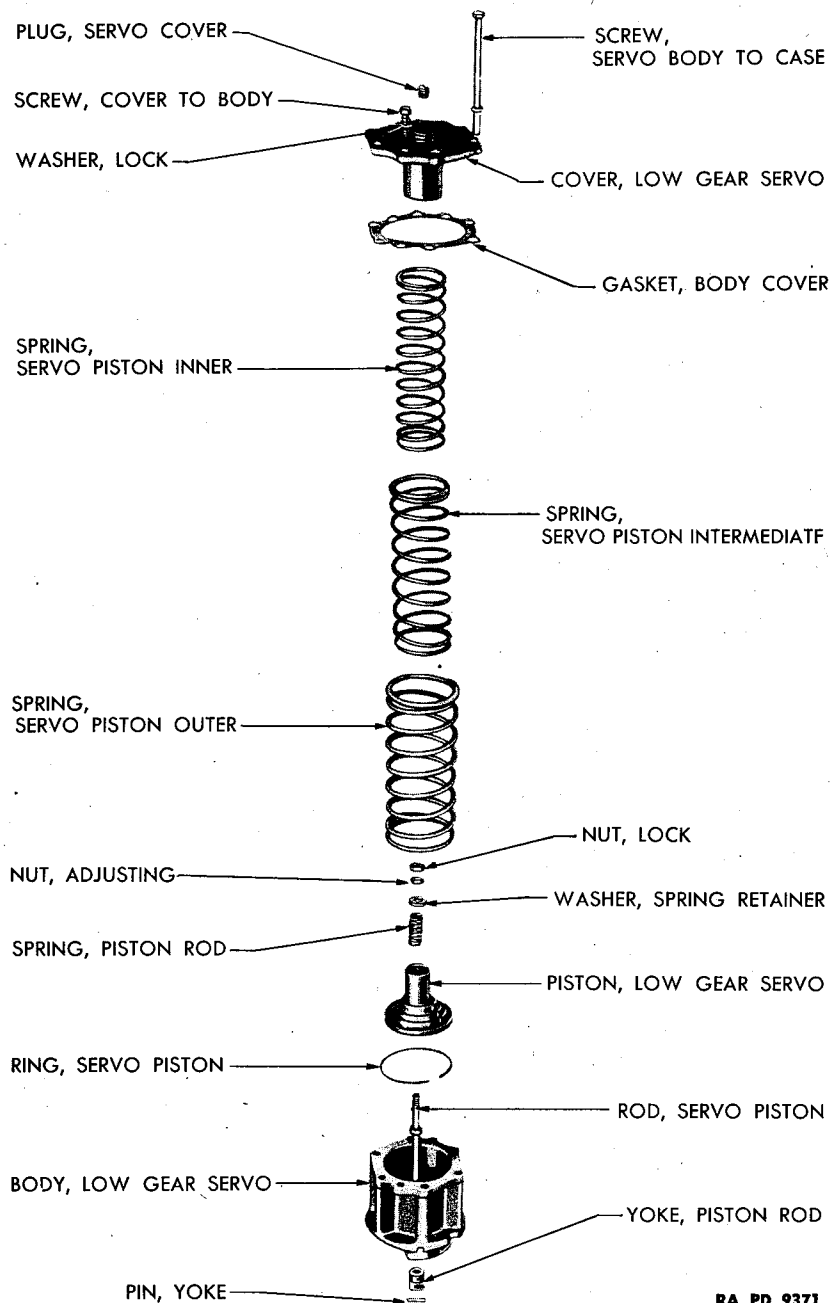

Figure 123 — Low Gear Servo — Disassembled
Inspect valve bores in valve body (fig. 123) for cuts or scores which might cause valves to stick or cause oil leakage. Inspect machined
Remove accumulator piston oil seal ring (fig. 123) from accumulator piston and insert in bore of valve body. Check ring gap, using a feeler gage. This gap should be 0.0015 inch to 0.0095 inch. Reinstall accumulator piston oil seal ring on accumulator piston and check clearance between ring and ring grooves in piston. Clearance should be 0.001 inch to 0.003 inch.
(4) ACCUMULATOR PISTON SPRINGS (fig. 123).
Check free length of outer accumulator piston spring (fig. 123). Free length should be $5\frac{11}{16}$ inches. Compress outer accumulator piston spring to $3\frac{3}{4}$ inches and measure pressure while compressed. Pressure should be 15 pounds to 16.5 pounds. Check free length of inner accumulator piston spring. Free length should be $5\frac{23}{64}$ inches. Compress inner accumulator piston spring to $3\frac{3}{4}$ inches and measure pressure while compressed. Pressure should be 6.45 pounds to 7.45 pounds.
(5) SHIFTER VALVE SPRINGS (fig. 123).
Check free length of inner shifter valve spring (fig. 123). Free length should be $1\frac{1}{2}$ inches. Compress inner shifter valve spring to $\frac{13}{16}$ inch and measure pressure while compressed. Pressure should be 4.9 pounds to 5.3 pounds. Check free length of outer shifter valve spring. Free length should be $1\frac{7}{16}$ inches. Compress outer shifter valve spring to $\frac{5}{8}$ inch and measure pressure while compressed. Pressure should be 4.1 pounds to 4.75 pounds.
(6) THROTTLE VALVE SPRING (fig. 123).
(7) LOW GEAR SERVO SPRINGS (fig. 123).
Install low gear servo piston ring in bore of servo body (fig. 123). Check ring gap, using a feeler gage. This gap should be 0.0015 inch to 0.0095 inch. Install low gear servo piston (without ring) in bore of servo body and check clearance of piston, using a feeler gage. The clearance should not exceed 0.008 inch. **NOTE:** Make sure that this measurement is made with piston mounted on piston rod so that piston will not wedge in bore. Inspect condition of piston ring. Install ring on piston and check clearance between ring and ring groove in piston, using a feeler gage. Clearance should be not more than 0.003 inch. Inspect small end of servo piston for scores and cuts where it enters servo cover. Also inspect servo cover bore for same conditions. Check fit of piston in cover. This should be free with 0.001 inch to 0.004 inch clearance.